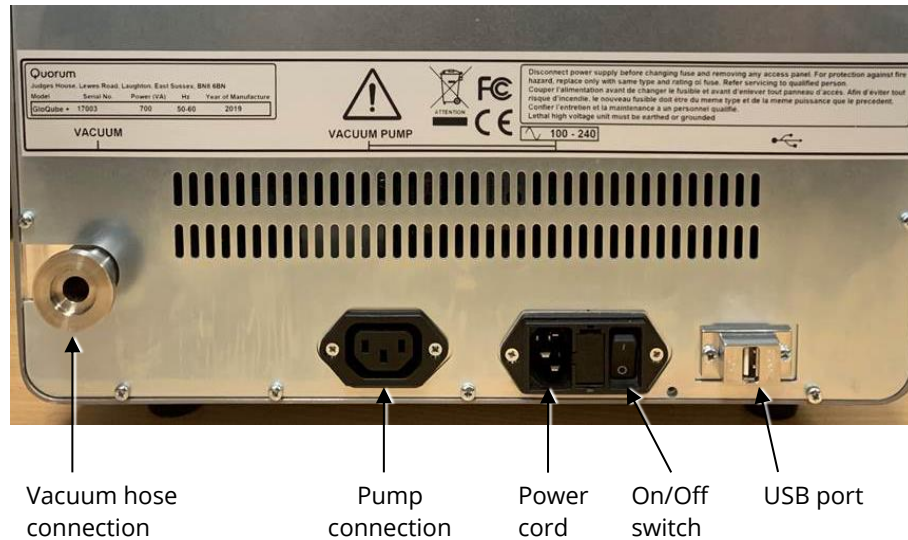

Figure 2-1. Back panel connections
1. Take the power cord with the mains plug and connect to the power in socket next to the on/off switch (See Figure 2-1 for location). Plug the other end into a suitable mains socket (do not switch on yet).
2. Take the other double-ended lead and plug one end into the pump and the other into the back of the GloQube Plus (this is identified as "pump connection" in Figure 2-1).